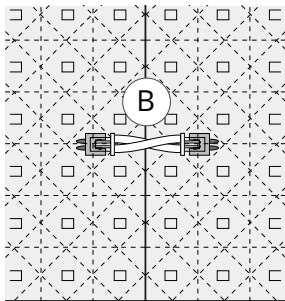
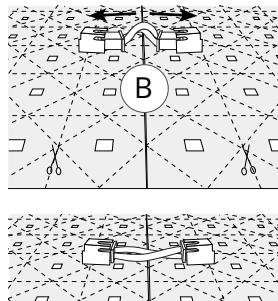

Figure 1
Figure 2
Short sheet-to-sheet connectors (B): When adjacent Auragami Light Sheets are mounted side-by-side with connection blocks aligned, the shorter sheet-to-sheet connection wires (B) should be used to interconnect multiple sheets. Their lengths are optimized so sheets align snugly. See Figure 1. When connecting Light Sheets that are already mounted to a fixed surface, the short connection wires (B) will need to be shaped as shown in Figure 2 prior to pushing into connection blocks. Best practices include using two sheet-to-sheet connection wires for all adjacent Light Sheets in each Class 2 circuit to minimize voltage drop. Dry-fit test for proper illumination prior to mounting Light Sheets to the mounting surface and again before the forward facing material is installed.